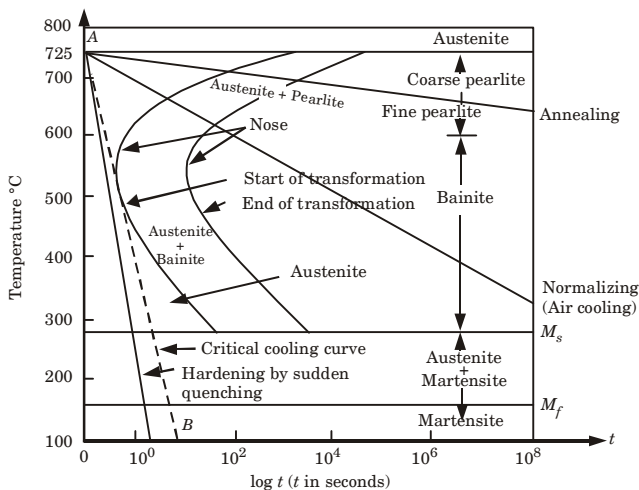

Fig. 11. The TTT curve showing temperature and log (time) variation for an eutectoid steel, and its different phases.
12. A complete feature of TTT diagram to show its different phase is shown in (Fig. 11).